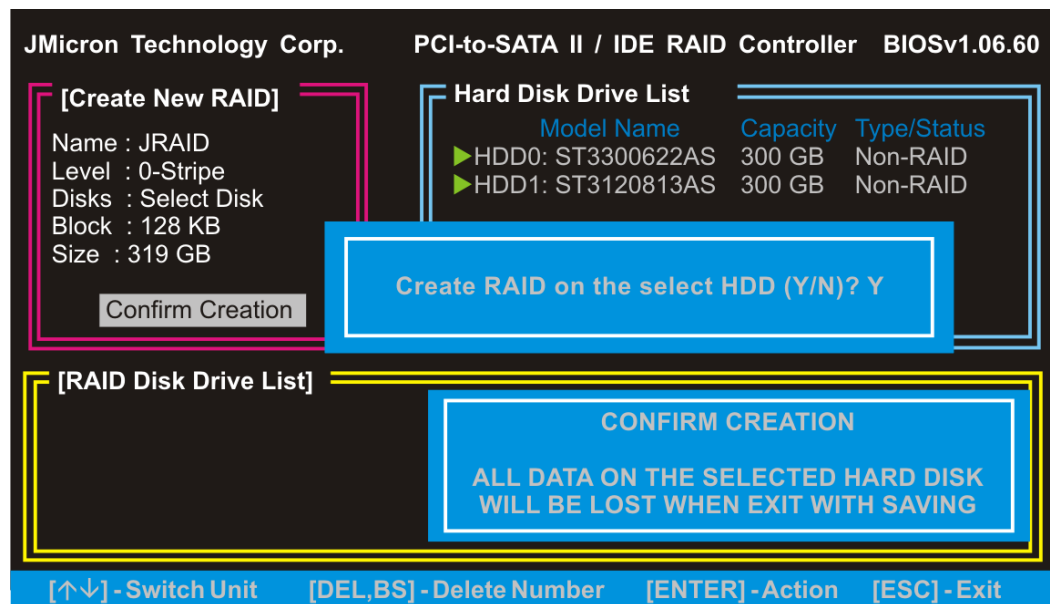

Figure D-9: Confirm creation
Step 7: After the **ENTER** key is pressed, the **Confirm Creation** item is highlighted, and a confirmation message appears (**Figure D-9**). Press **Y** to confirm the creation of the RAID volume.